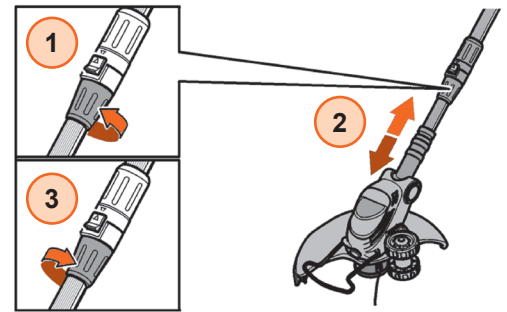

Figure 7
Adjust the trimmer length to the height of the user (see Figure 7). Loosen the threaded sleeve on the shaft coupling ①. Extend the lower shaft until the ideal handle length is reached ②. Tighten the threaded sleeve ③.